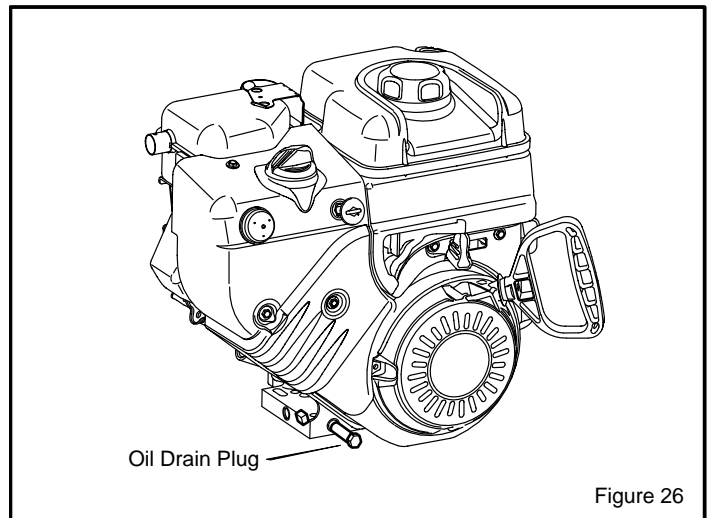

Figure 26
**To Drain Oil** - Position snowthrower so that the oil drain plug is lowest point on engine. Remove oil drain plug and oil fill cap and drain oil into a suitable container (Figure 26).